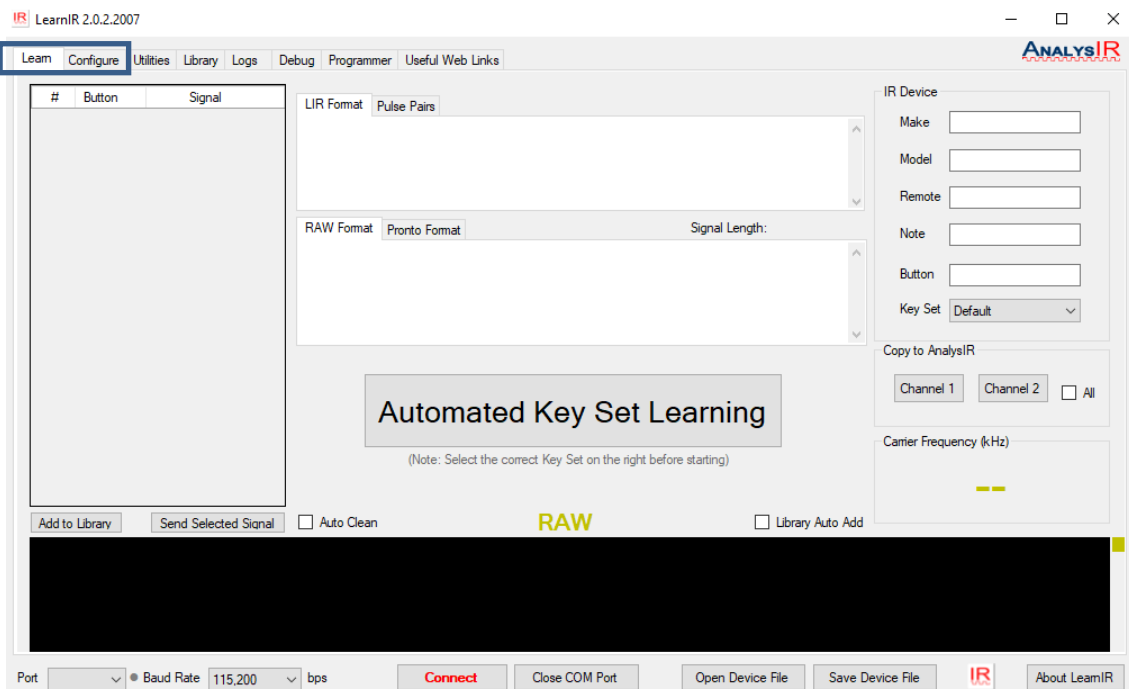

Figure 6 – Additional Function Buttons
4. Observe the bottom row of buttons. Some buttons are not shown on this initial screen and to make them appear, click on the **Configure** tab once and then click on the **Learn** tab. Additional buttons **Open Device File** and **Save Device File** will now be displayed. See Figure 6.